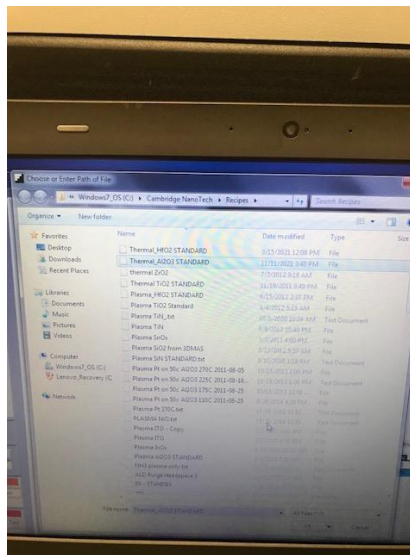

Figure 8: Recipe Window
9.6.2. Select the recipe you would like to run. **Figure 8.**